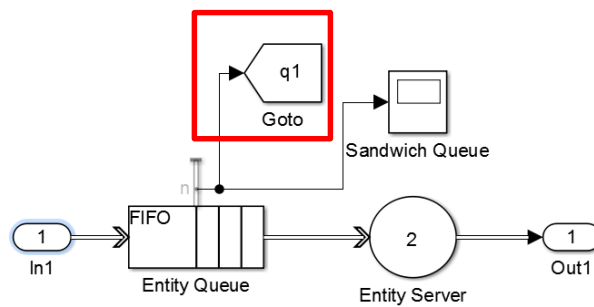

Figure 21: Add a Goto block to the Sandwich subsystem
1. Start with a Goto block and update the Sandwich subsystem as shown in Figure 21. The “Goto Tag” should be set to “q1”. Repeat for the Hot Food subsystem, but with the “Goto Tag” set to “q2”. The “Tag visibility” for both Goto blocks should be set to “global”. The Goto block allows you to route the signal to a different part of the model, without having to physically connect a wire.